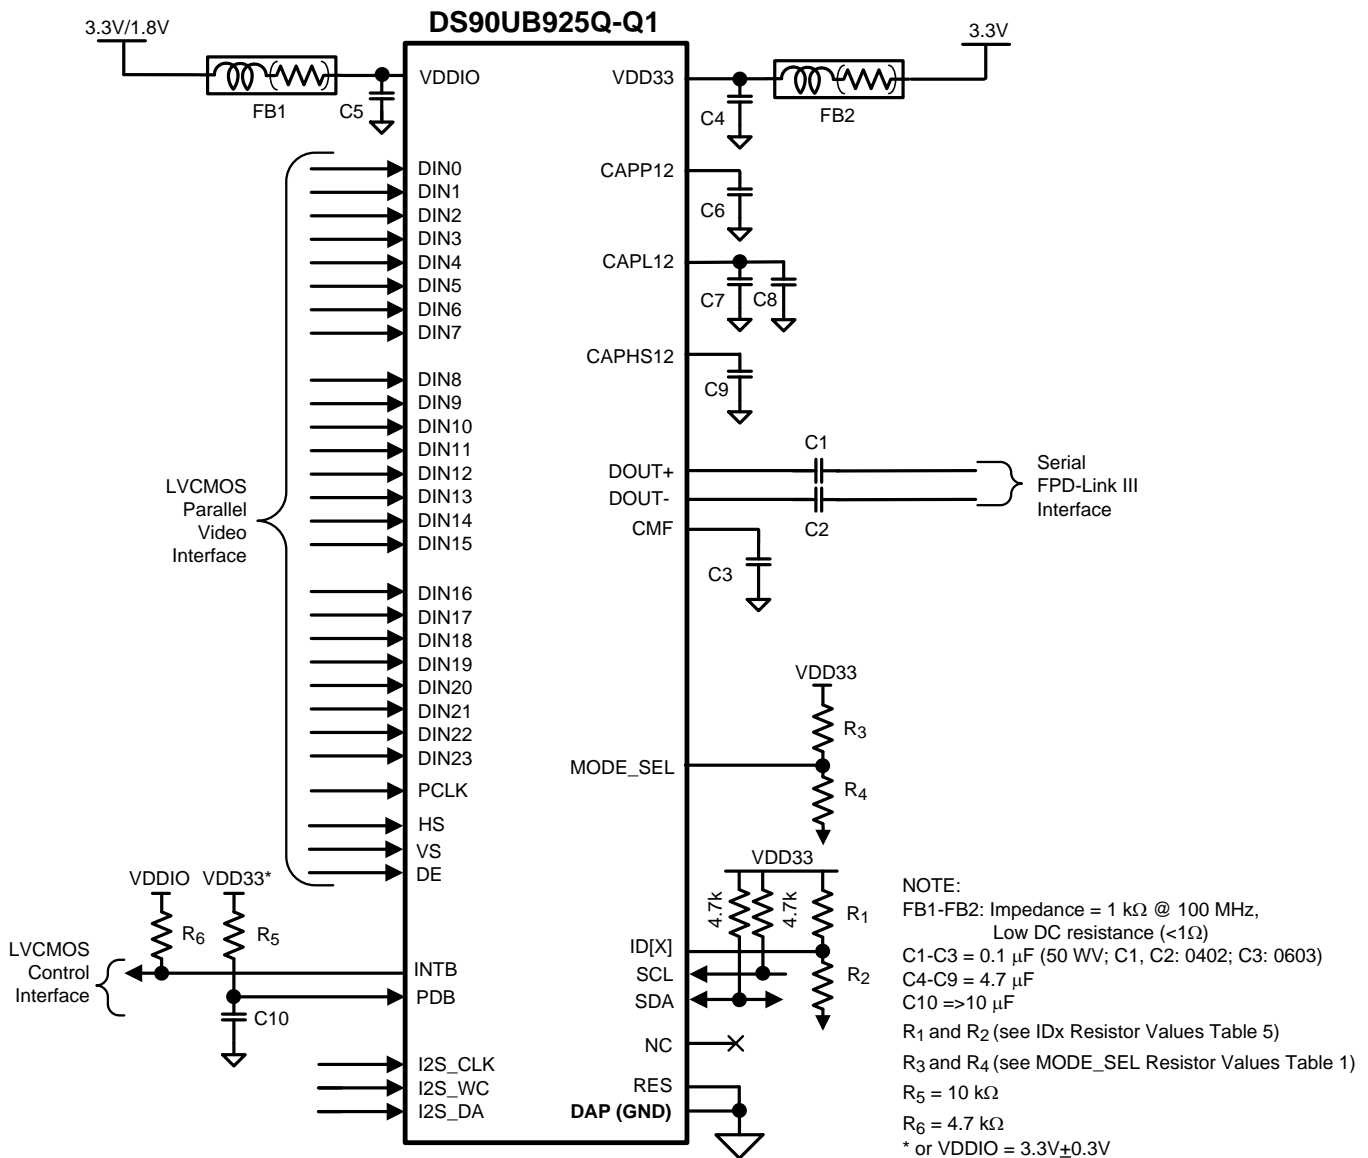

Figure 23. Typical Connection Diagram
Figure 23 shows a typical application of the DS90UB925Q-Q1 serializer for an 85 MHz 24-bit Color Display Application. The camera application has the same recommended connections. The CML outputs must have an external 0.1 μF AC coupling capacitor on the high speed serial lines. The serializer has an internal termination. Bypass capacitors are placed near the power supply pins. At a minimum, six (6) 4.7 μF capacitors and two (2) additional 1 μF capacitors should be used for local device bypassing. Ferrite beads are placed on the two (2) VDDs (V_{DD33} and V_{DDIO}) for effective noise suppression. The interface to the graphics source is with 3.3V LVCMOS levels, thus the V_{DDIO} pin is connected to the 3.3 V rail. A RC delay is placed on the PDB signal to delay the enabling of the device until power is stable.